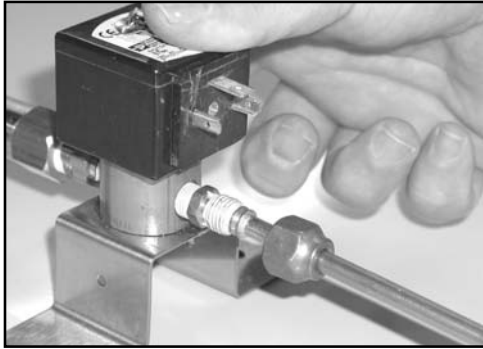

Figure 4
4. Take Female End of Solenoid Valve Cable and plug onto Solenoid Valve. Secure Female End by tightening Screw with Flat Head Screwdriver. See **Figures 4 & 4a**.